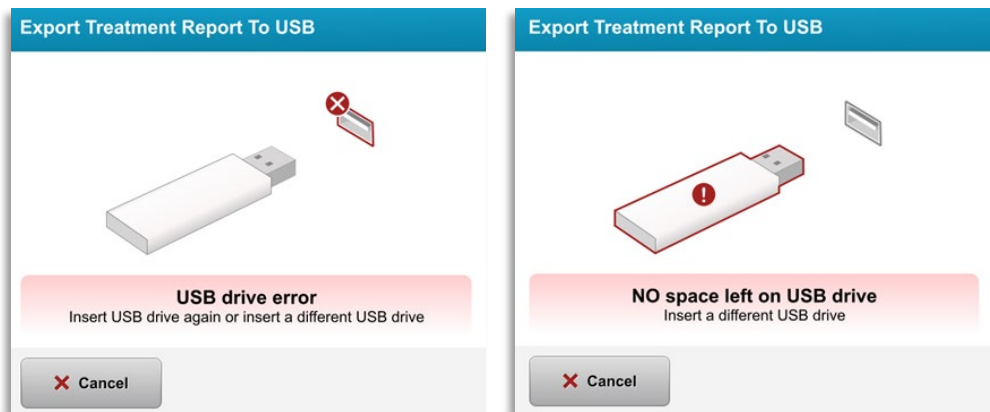

Figure 3-41. USB Error and No Space Left on USB
- o If the USB is full or the system is unable to read the USB, an error message will be displayed as shown in Figure 3-41.